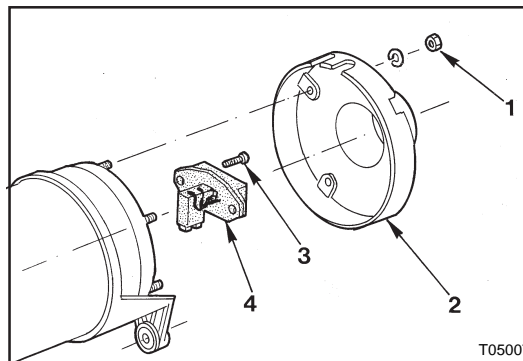

Figure 13: To remove voltage regulator
1. Remove nuts (1, Figure 13) retaining cover (2, Figure 13) to the alternator. Pull cover back.
2. Remove screws (3, Figure 13) retaining the voltage regulator (4, Figure 13) to the rear bearing shield. Take off the voltage regulator.